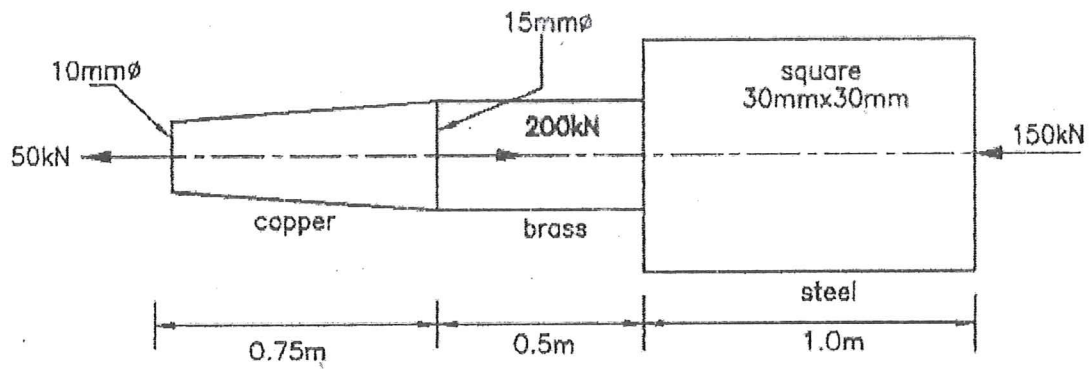

Fig. 5
- Q - 5 (a) A stepped bar is loaded as shown in Fig. 5. Calculate the stresses in each part and total change in the length of the bar. Take $E_s = 200$ GPa, $E_c = 100$ GPa and $E_b = 80$ GPa. 07